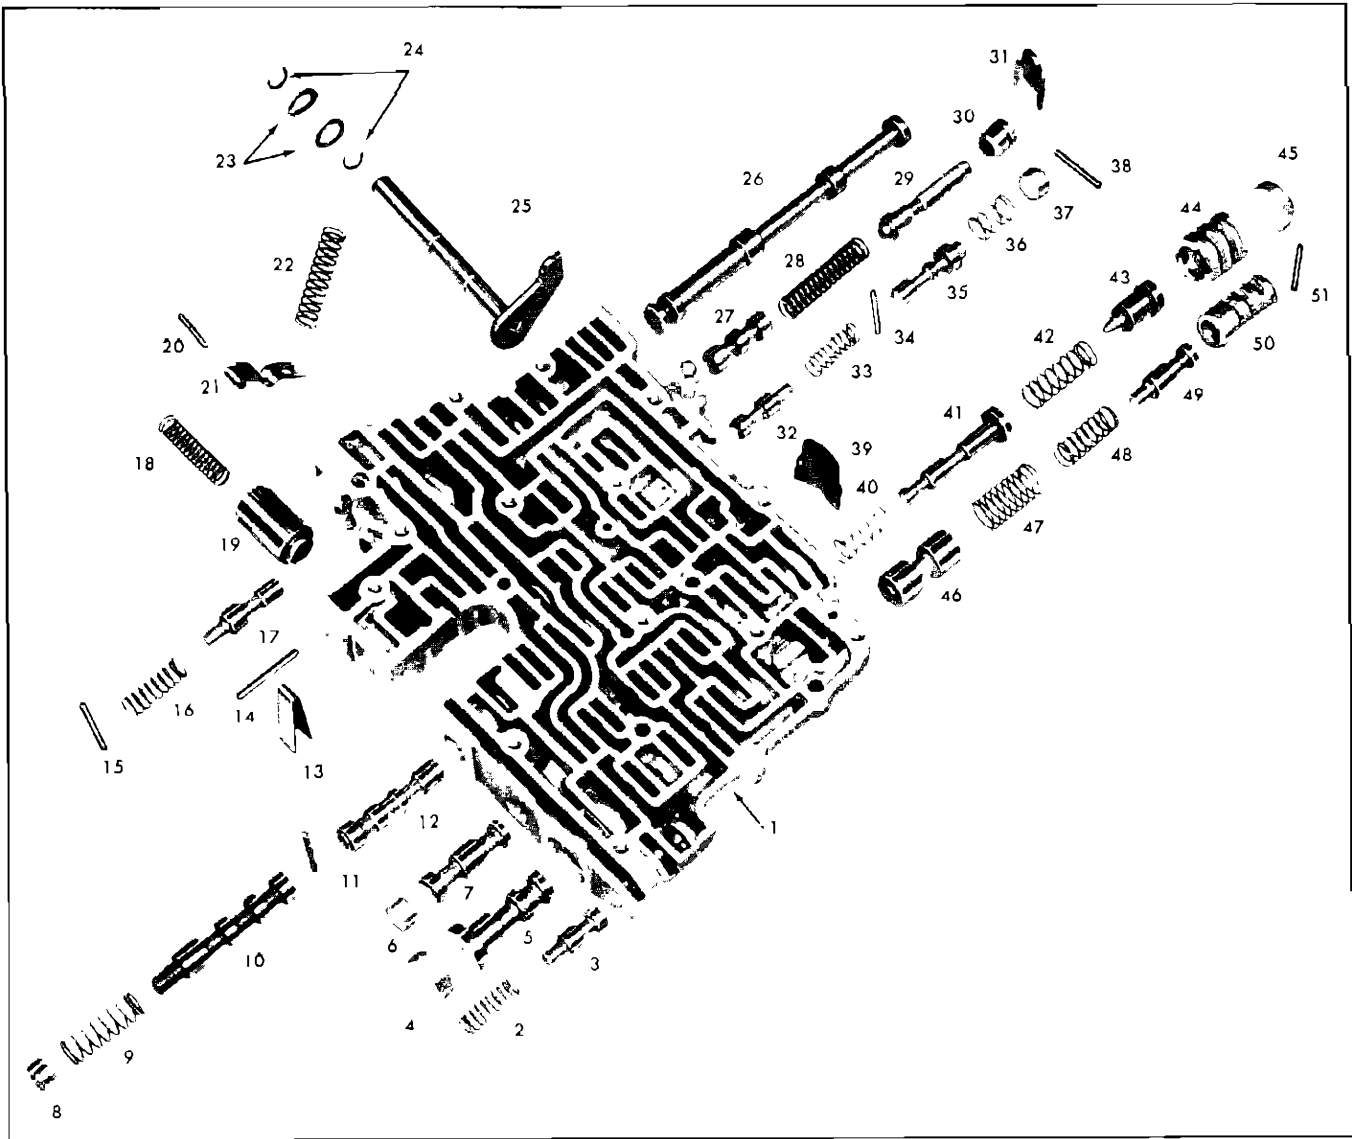

Fig. 104 Control Valve Assembly—Exploded
10. Remove the 2-1 downshift spring and valve from the lowest bore (Fig. 104).